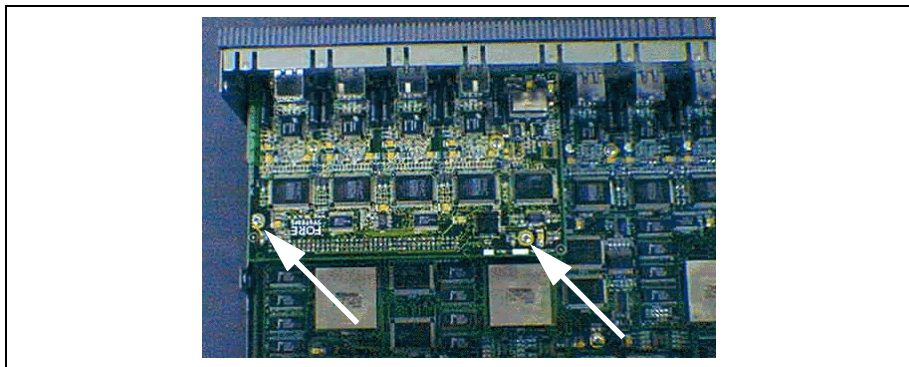

Figure C.4 - Secure the Module Using the Screws Provided
- e. Insert and tighten one of the pan-head screws from the kit into each of the standoffs in the middle of the module to secure it as shown in Figure C.4.